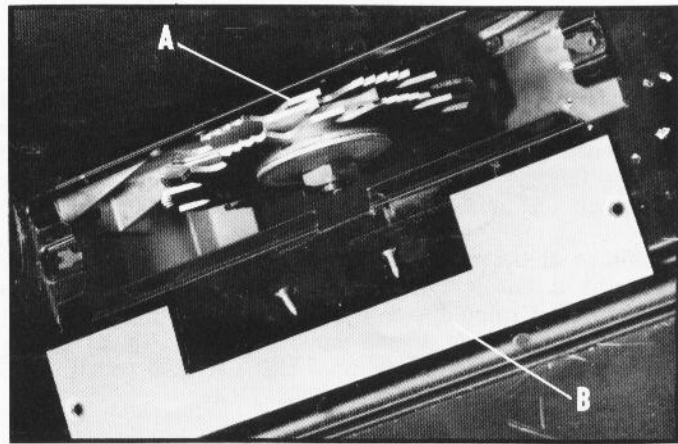

Fig. 35
The dado head set (A) Fig. 35, is assembled to the saw arbor in the same manner as the saw blade. The guard, splitter and anti-kickback finger assembly can not be used when dadoing and must be removed from the saw, as shown. Also, the Cat. No. 34-667 accessory dado head table insert (B) Fig. 35, must be used in place of the standard table insert.